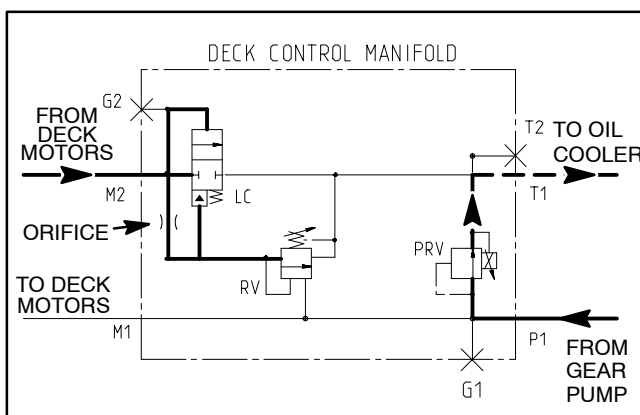
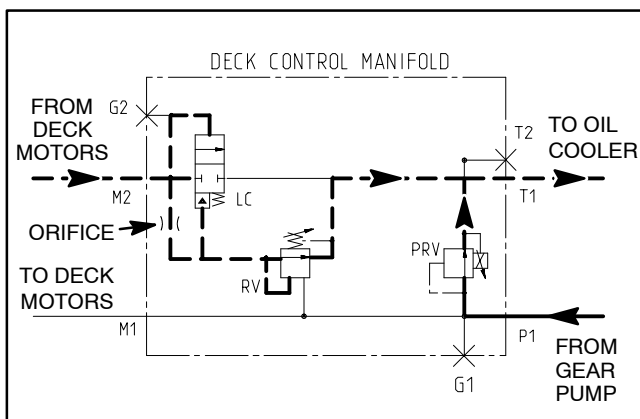

Figure 16
Figure 17
The inertia of the rotating cutting blades increases pressure of the oil return to the deck control manifold. This pressure increase along with the orifice in the manifold and the shifted relief valve (RV) cause logic cartridge (LC1) to shift (Fig. 16). The oil from the deck motors is finally directed through the orifice and to relief valve (RV) which bleeds the residual pressure in the circuit and allows the blades to stop in a controlled manner (Fig. 17).